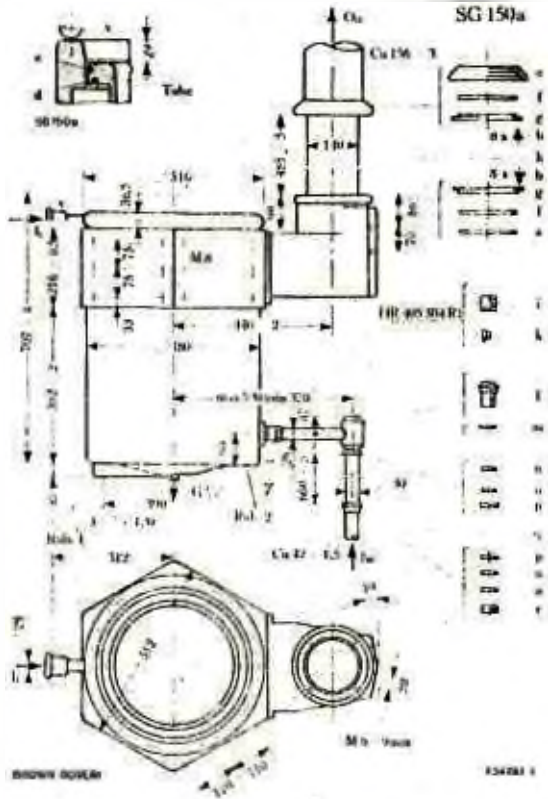
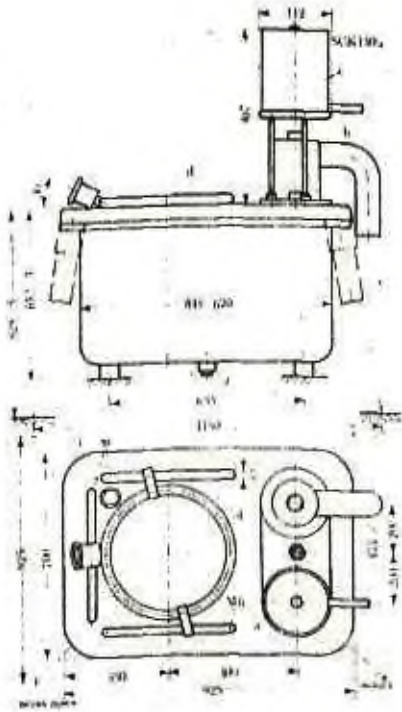

Fig. 7 Roller SG 150a
Fig. 9
Details of the Boiler type SG 150a shows Fig. 7 with the following explanation of the parts belonging to it:
- 2 - Boiler type SG 150a (Fig. 7) or simplified system SGK 150a (Fig. 9)